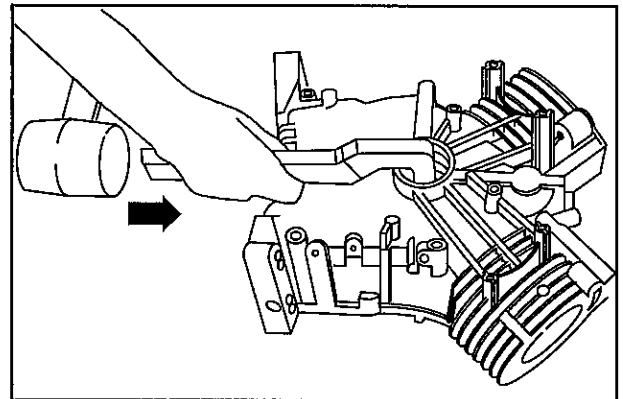

Fig. 13
6. Use Roll Pin Driver #19344 to install new roll pin, **Fig. 13**. Drive in new roll pin until tool bottoms.